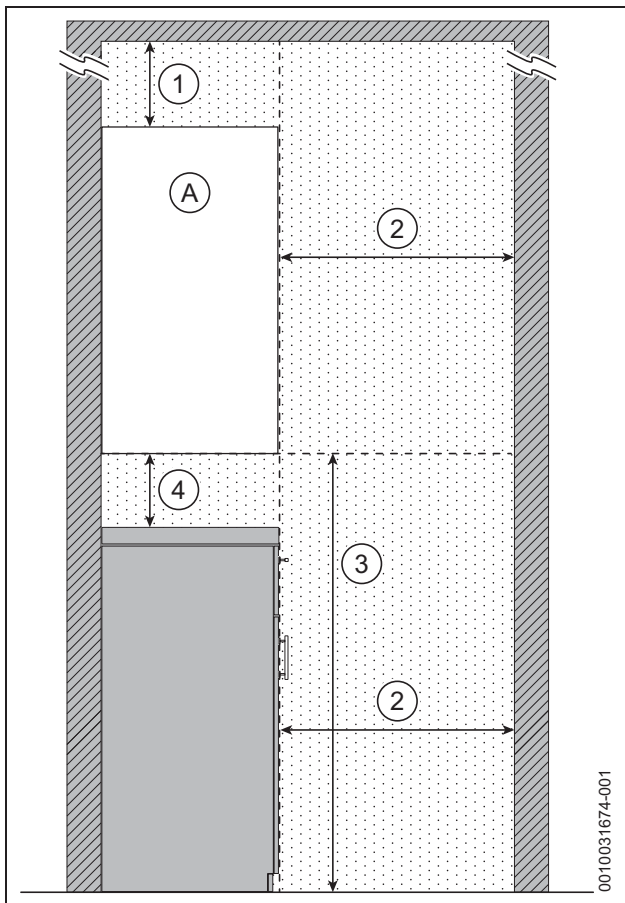

Fig. 16 Reduced front maintenance clearances - Side view
**i** Minimum clearances must be observed to any obstruction/ surface, (dark shaded areas, figures 16 and 17).